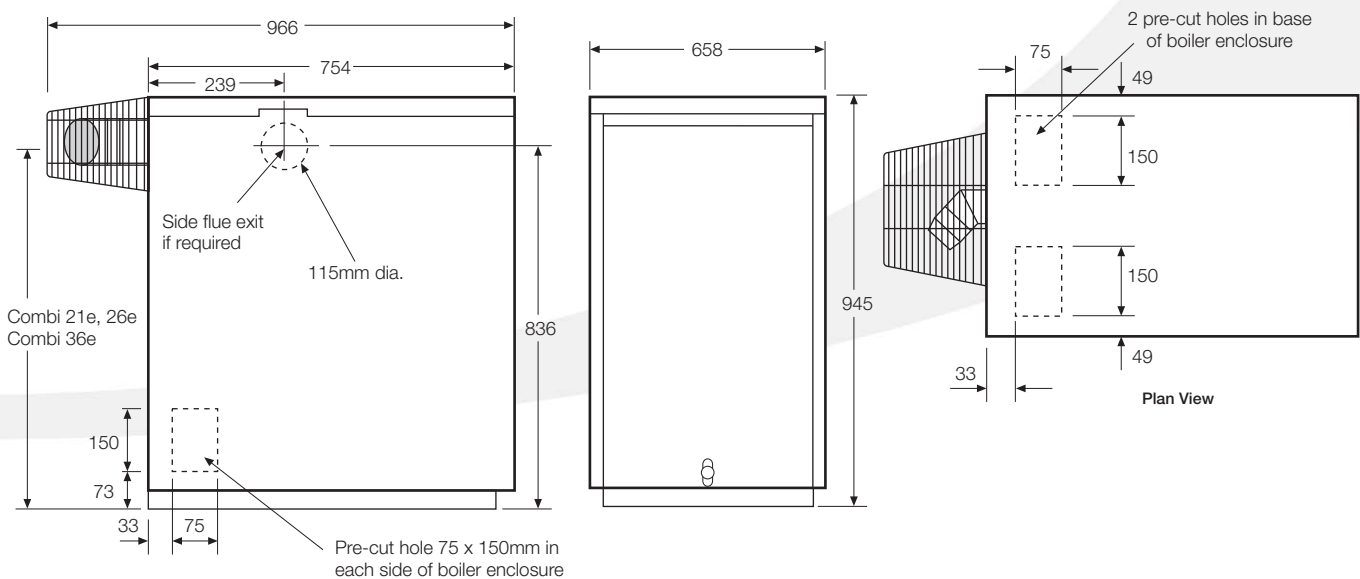

Figure 2-1: Vortex Pro External Combi e dimensions
1. If the boiler is to be fitted against the wall, prepare the wall to accept the heating system pipework. To mark the wall for drilling, refer to Figure 2-1 for the positions of the pipework openings in the enclosure sides.